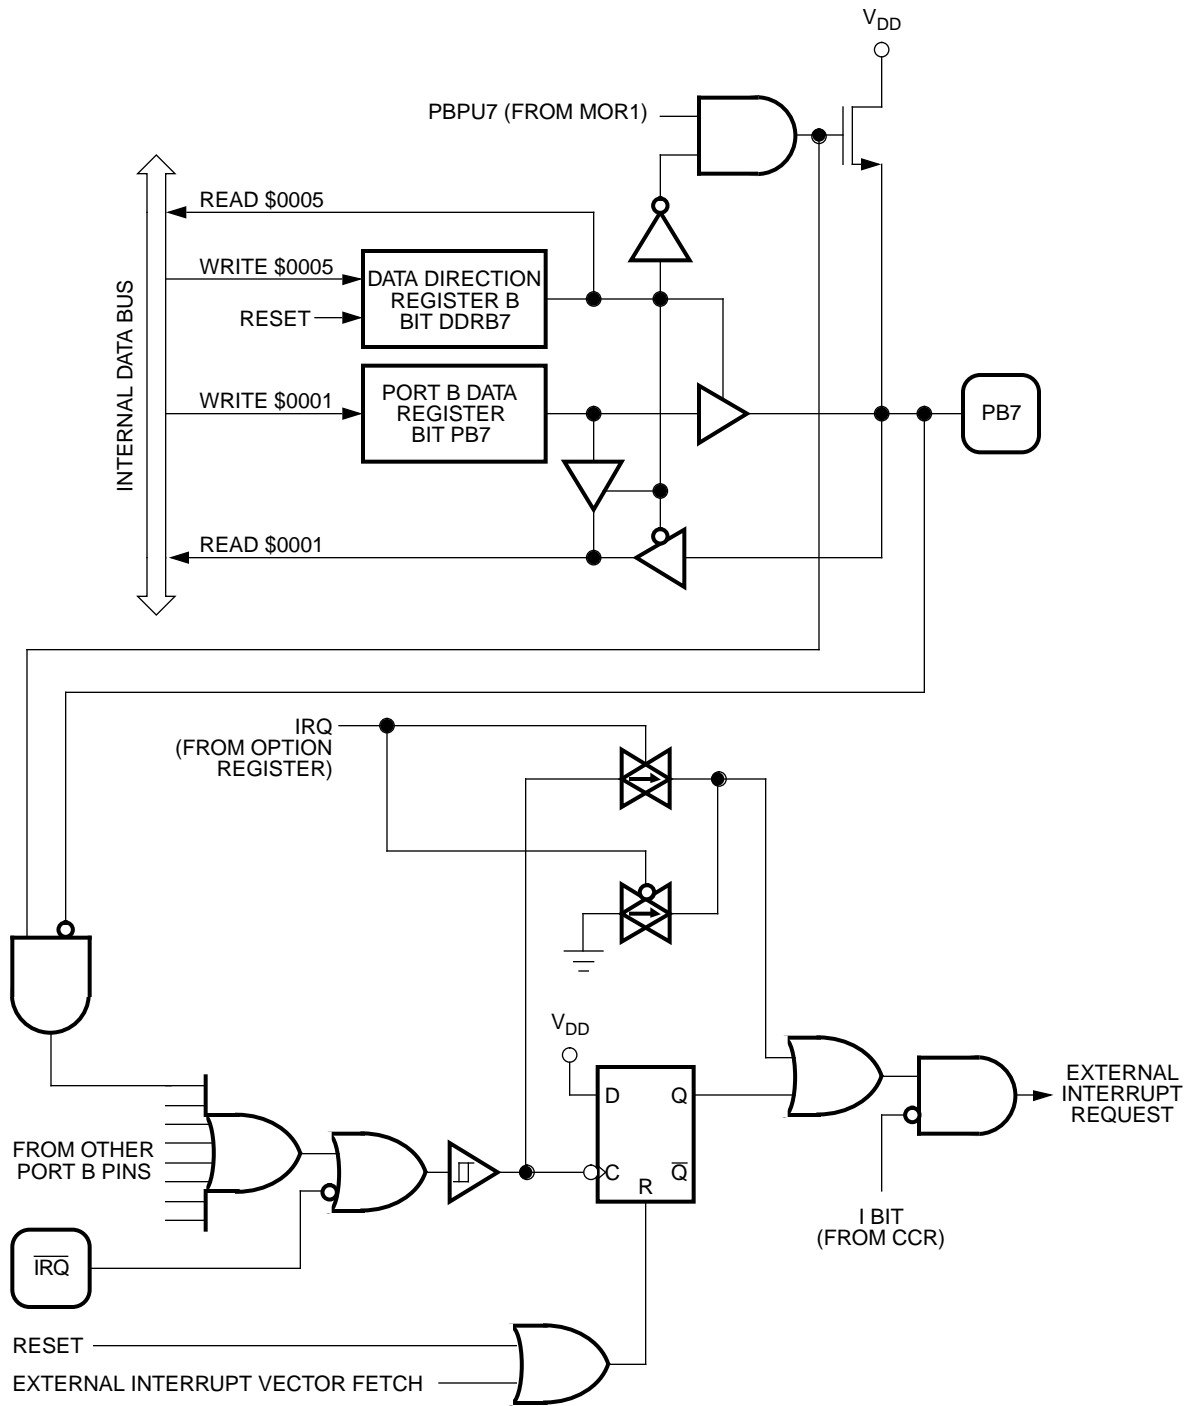

Figure C-4. Port B I/O Logic
- A subsequent port B external interrupt request can be latched only after the voltage level of the previous port B external interrupt signal returns to a logic one and then falls again to a logic zero. Figure C-4 shows the port B I/O logic.